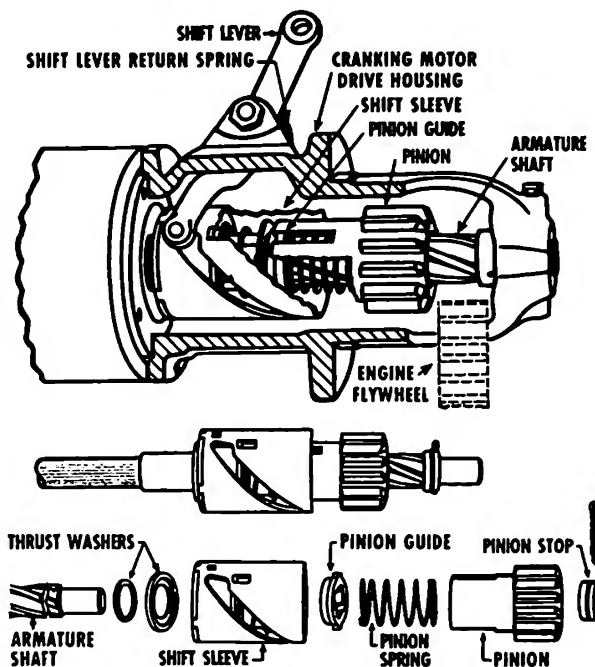

Fig. 11-4. Dyer drive assembly. Lower view shows exploded view of component parts
THE DYER SHIFT DRIVE: 1. The Dyer drive provides for positive meshing of the drive pinion with the flywheel before the cranking motor switch is closed and before the armature begins to rotate. This reduces clashing of pinion teeth with flywheel teeth and the possibility of broken or burred teeth on either the engine or flywheel or the drive pinion. See Fig. 11-4.
3. In the position shown in Fig. 11-4, the drive assembly is at rest. The drive pinion is retained in this position by the pinion guide which drops into milled notches in the armature shaft splines. The pinion can be released from this position only by movement of the pinion guide through operation of the shift lever.